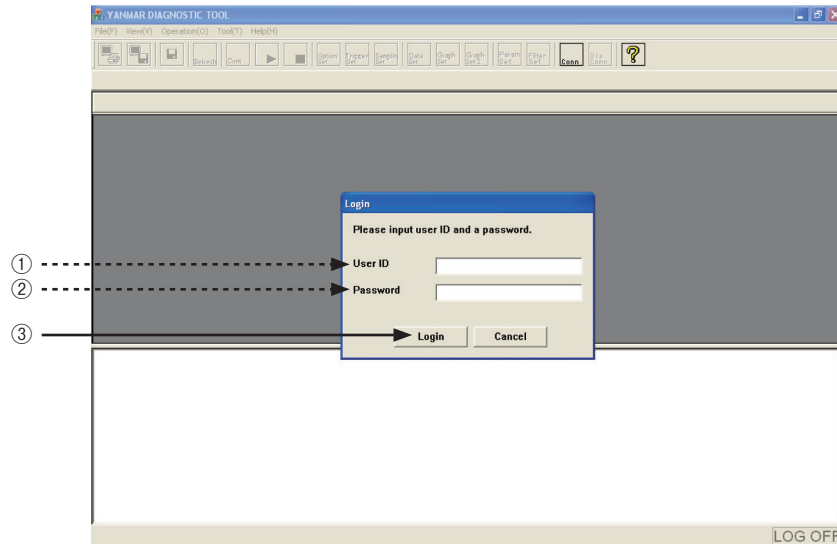

Figure 5-2 Screen to Enter a User ID and Password
- ① **User ID** : Enter a name to identify the user.
- ② **Password** : Enter a password.
- ③ **[Reinput]** : Enter the password you entered in ② again for confirmation.
- ④ **Authority** : Select an authority level. Select  **Mechanic** in your first session.
- ⑤ **Explanation** : Enter a comment as necessary. You can omit it.
- ⑥ Click the **OK** button to set the entries. The screen to enter a password as shown in Figure 5-2 appears.
The entry screen as shown in Figure 5-2 appears after the registration in the first session and in second and later sessions.